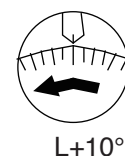

Fig. 4
5. Turn Main shaft by using the 5mm wrench in direction shown with arrow mark and set the angle of the Adjustment disk as shown in Fig. 4.